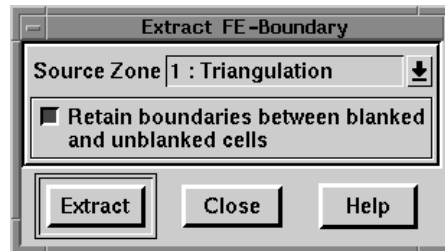

Figure 20-9. Extract FE-Boundary dialog.
2. From the Data menu, choose Extract, then choose FE-Boundary. The Extract FE-Boundary dialog appears as in Figure 20-9.